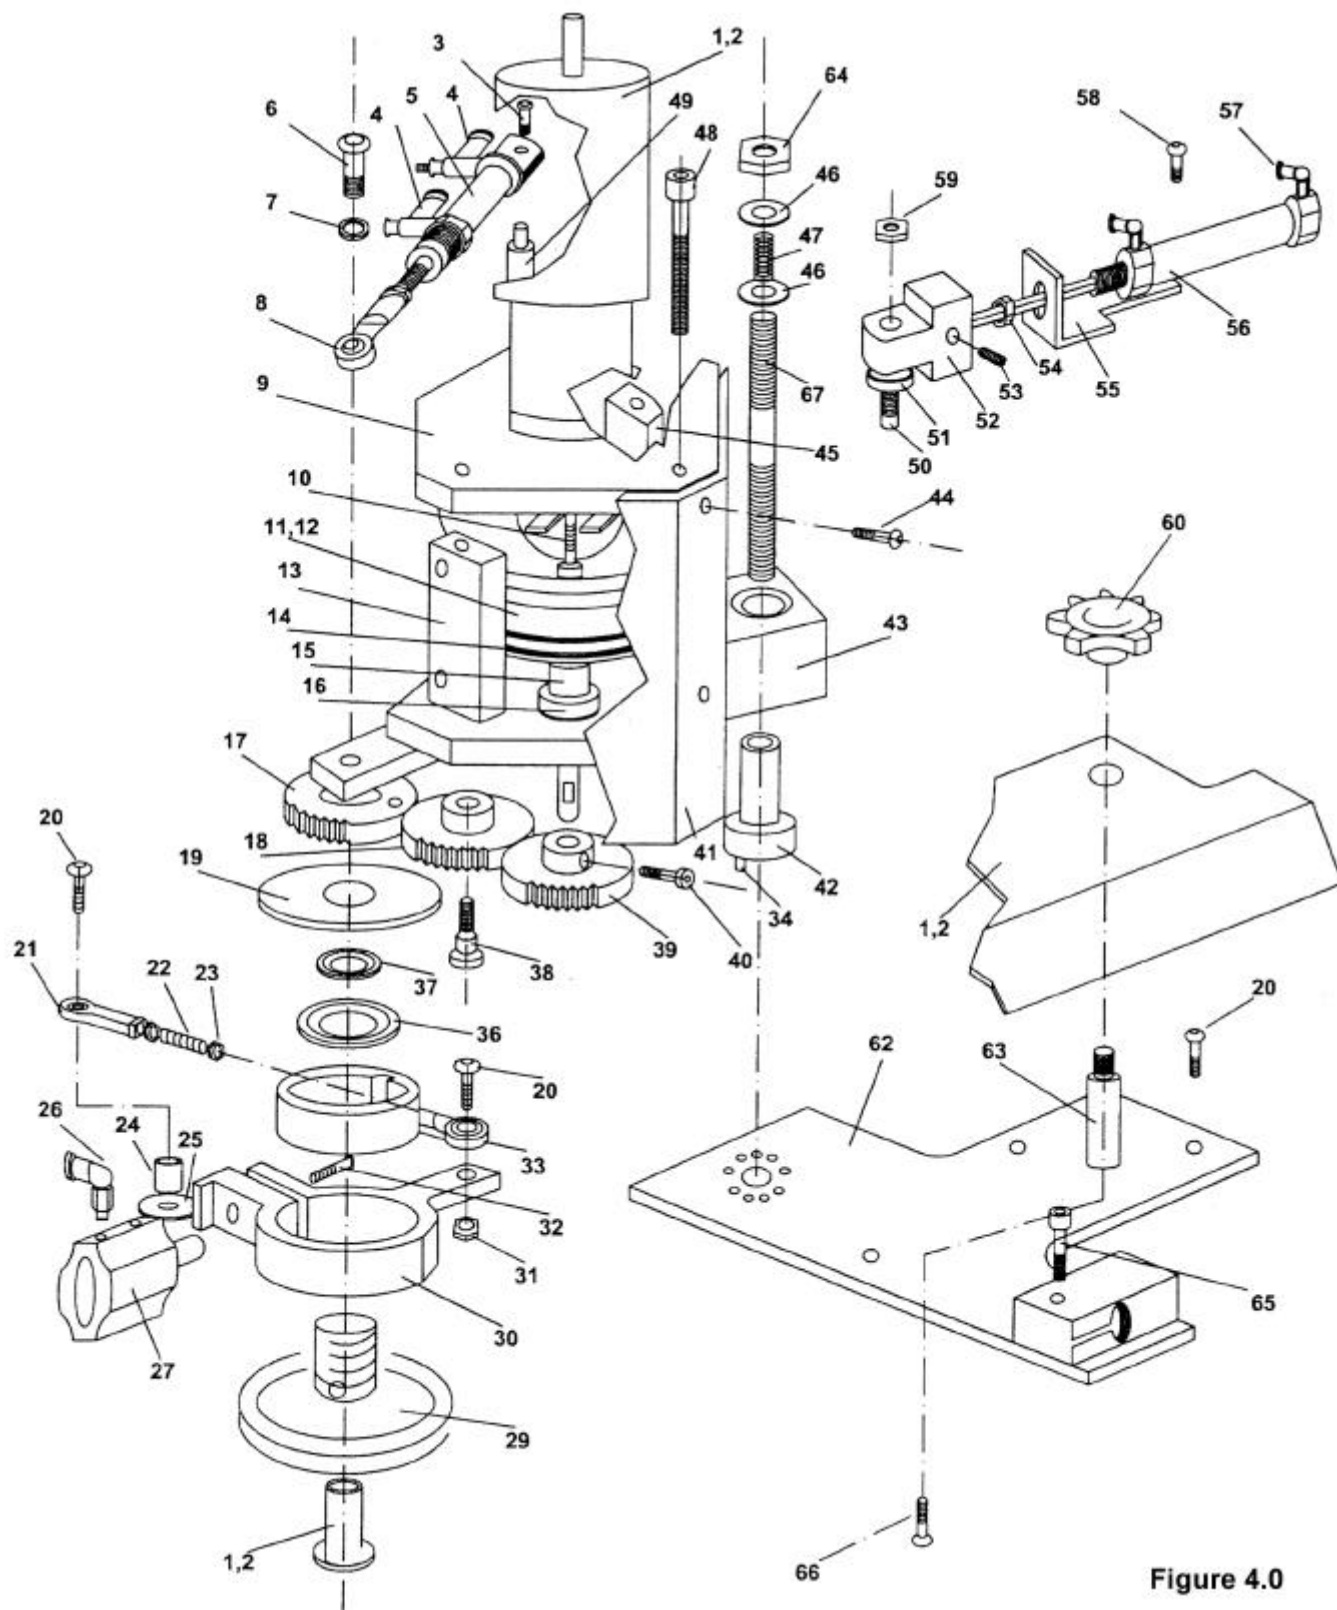
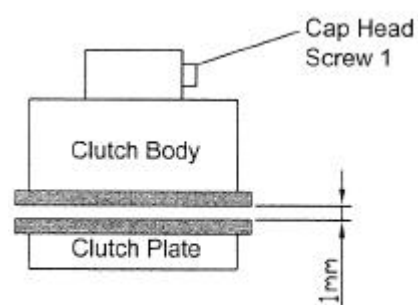

Figure 4.0
Figure 4.3
Figure 4.0 shows the jig drive assembly. On the 84-55 a jig may be driven continuously or with an indexed motion. The settings for these two styles of motion are given in separate sections below. Any settings common to both types of motion are also given in separate sections.
The rod end bearing (item 8, figure 4.0) should be set so that when the cylinder is fully extended the drive wheel is taken 3mm past its point of contact with the jig.
The drive arm eccentric (item 34, fig 4.0) is used to adjust the point of contact between the drive wheel and the jig face in relation to the throat plate 'D'. Location holes drilled into the base plate, item 62, ensure the eccentric does not move from the position it has been set to. The factory setting for the eccentric is shown by a center pop mark next to the relative hole. If any adjustment is required slacken off nut 64 and lift drive arm item 43, up allowing the eccentric to rotate. Ensure the pin is located in one of the holes and tighten the nut. Set the spring 47 to the correct compression, see section 4.1.2.d.
To allow the jig drive wheel to find its optimum location point a floating drive arm, 43, fig 4.0, has been used.
As well as providing the drive to the drive wheel, the drive linkage, item 22, figure 4.0, also determines the angle of the drive clamp cylinder, item 27, figure 4.0. if the angle of this cylinder is incorrect it can foul on the sewing jig or collide with the drive linkage itself.
The DC motor, item 1, figure 4.0, is used to obtain the continuous drive feed. The motor has two speed settings.
The clutch, item 11, figure 4.0, engages and disengages the DC drive motor. The gap between the two clutch faces must be set correctly to avoid slippage and binding. Figure 4.2 shows how to increase and decrease the clutch power. Figure 4.3 shows the gap setting between the faces. Release the cap head screw 1 and move clutch body up or down until the correct setting is achieved.